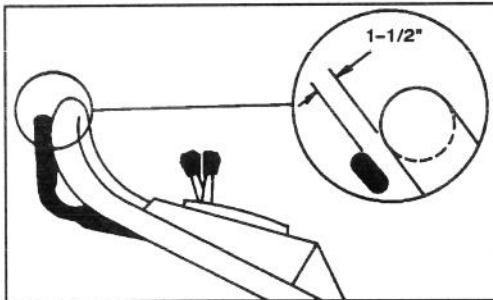

Figure 20
3. CHECK ADJUSTMENT – Slowly pull mower backwards while control bar is gradually moved toward handle. Adjustment is correct when rear wheels stop turning and control bar is about 1 inch from handle (Fig. 20).